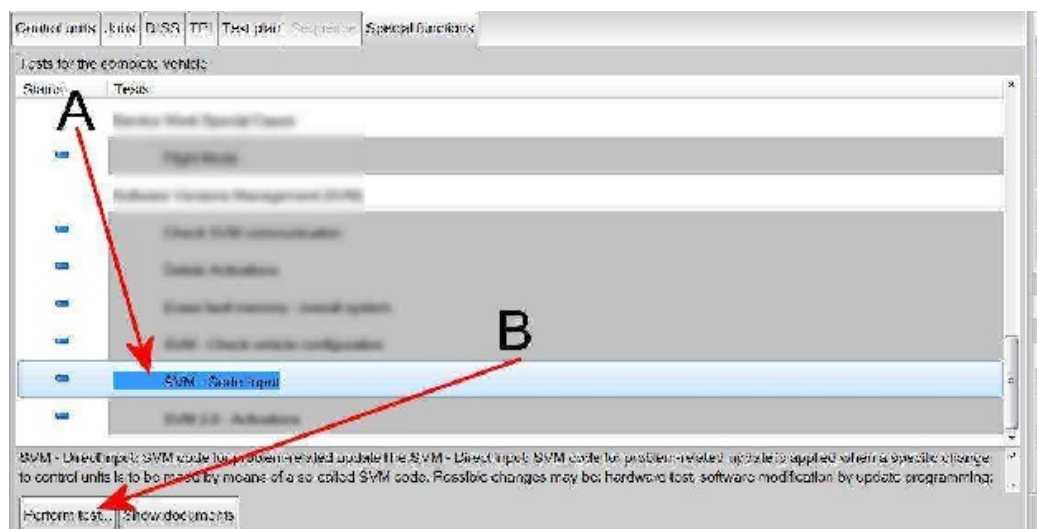

Figure 1
- Because of the highest transmission stability you MUST use the diagnosis interface VAS 6154 (WiFi diagnostic tool) ONLY in USB operation or the cable-connected VAS 5055 for the reprogramming (updating) of control modules. If these units are not available, the diagnosis interface VAS 5054 (A) can also be used in USB mode
3) Referring to Figure 1 - Within the Special functions tab - Select SVM - Code Input (Point A)